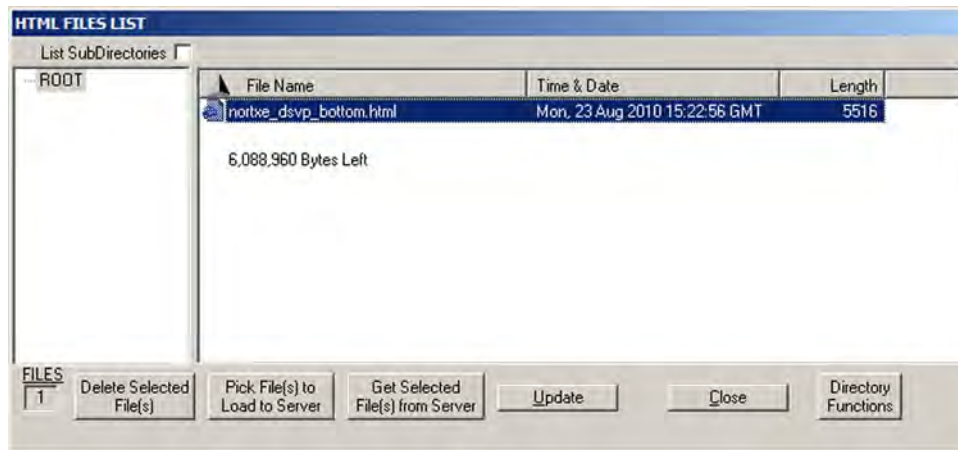

Figure 83. HTML Files List Window
- The file listed in figure 83 is shown for example only and may not be present on your switcher.